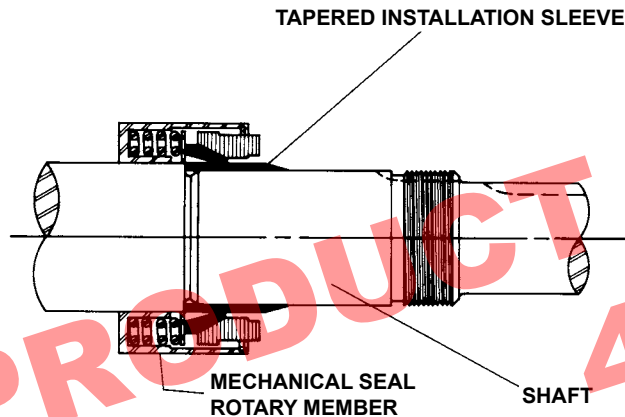

FIGURE 11
A tapered sleeve is available, at extra cost, for Q, QS and M pumps from Viking Pump for seal installation on shaft. LS size pump shaft is tapered and installation sleeve is not available. Place tapered sleeve on shaft, **Refer to Figure 11.**
4. Make a reference mark on bracket end, opposite a notch on outer end cap. Back off outer end cap required number of notches as shown in Total End Clearance Chart. **Refer to Figure 11.** Each notch represents .002" end clearance.